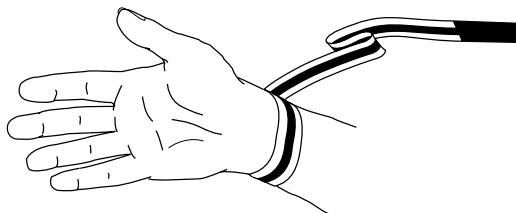

Figure C-1 Attaching the Wrist Strap
4. **Wrap the grounding strap with the conductive adhesive tape twice around your wrist. Make sure the adhesive side is against your skin. Refer to Figure C-1.**